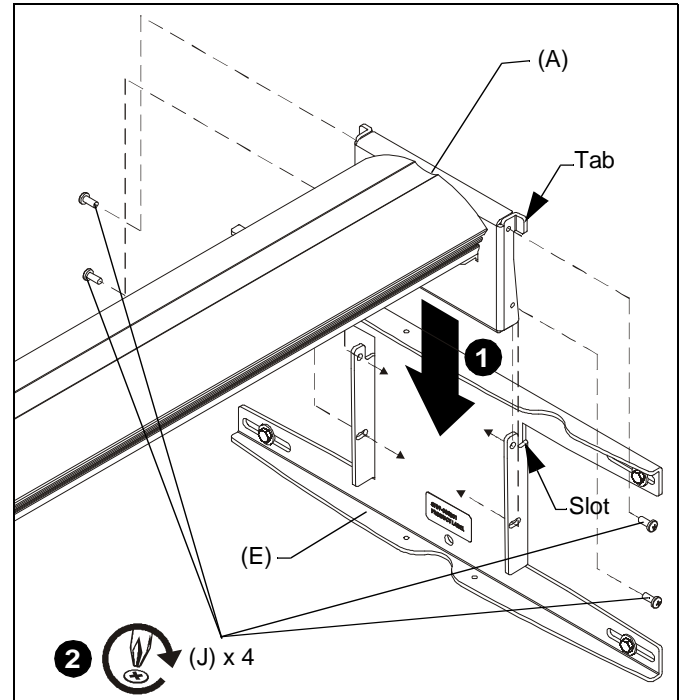

Figure 9
1. Lower projector arm (A) onto wall plate (E), ensuring that tabs on projector arm slide into slots on wall plate. (See Figure 9)
2. Fasten projector arm (A) to wall plate (E) using four M4 x 12mm Phillips head cap screws (J). (See Figure 9)